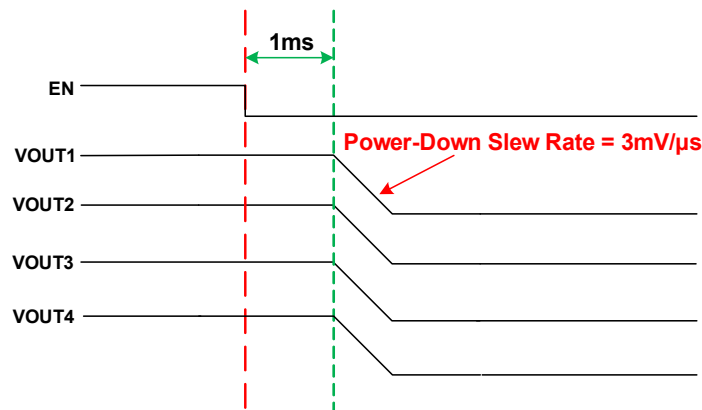

Figure 39. Auto Chip Power-Down Example
Figure 39 provides an example of power-down configurability. The master chip enable pin (EN) transitions from logic 1 to 0. In the Figure 39 example, BUCK1\_SHUTDOWN\_DLY is set for 1ms, BUCK2\_SHUTDOWN\_DLY is set for 1ms, BUCK3\_SHUTDOWN\_DLY is set for 1ms, and BUCK4\_SHUTDOWN\_DLY is set for 1ms.